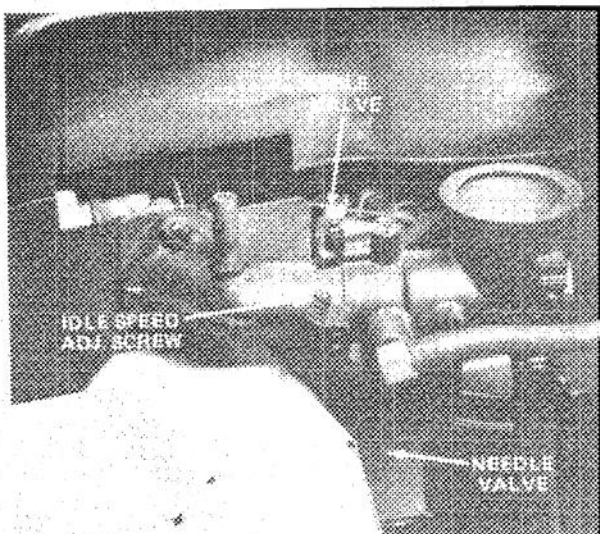

Figure 30
1. Needle Valve (Fig. 30) — Close valve by gently rotating it clockwise.
2. Rotate — open — the needle valve 2 turns counterclockwise (Fig. 30).
4. Rotate needle valve (Fig. 30) clockwise, 1/8 turn at a time, until engine starts to lose speed. Let engine react to each 1/8 turn setting.
5. Rotate needle valve (Fig. 30) counterclockwise — out — 1/8 turn at a time, until engine first runs rough. Let engine react to each 1/8 turn setting.
6. Rotate needle valve (Fig. 30) clockwise — in — very slowly until engine starts to run smoothly. This setting, under no load, may be slightly rich; however, the slightly rich setting will assure proper operation when engine is under load.
7. Move throttle control to SLOW. Next, rotate idle adjusting screw (Fig. 30) until engine speed is 1750 rpm.